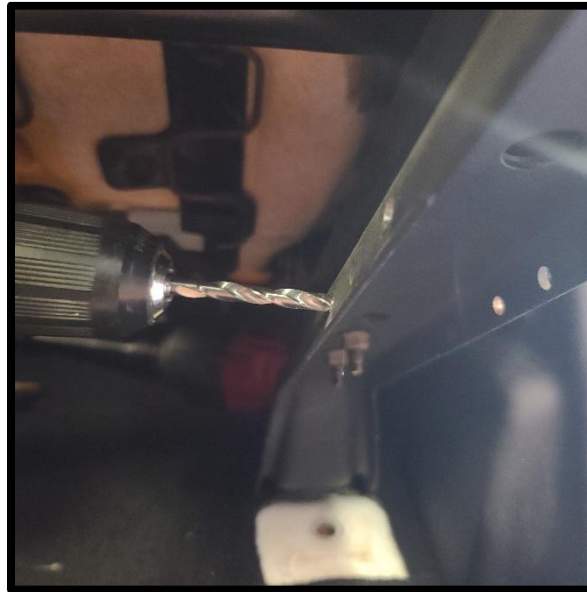

Figure 9
- 2-K) Installation of seat brackets. The example below shows the driver's side and the seat was unbolted for the photos, but install can be done without unbolting. You will repeat the same on the passenger side. Use a 1/4" drill to drill out the two existing holes on the inner seat frame (**Figure 9**) or use the two holes in one of the seat brackets as a guide to mark and drill the two holes. **Note:** Some Jeeps have an additional bracket under the driver seat holding a wire harness in place. Just bolt it back in place with the new bracket.